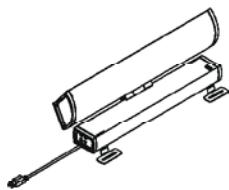
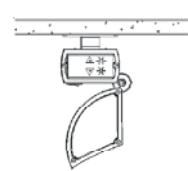
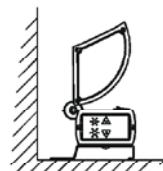

FIG.1
FIG.2
FIG.4
Note 1: This portable luminaire (Fig.1) uses LED (light emitting diode lamps), which require no maintenance. Designed for residential, commercial and industrial applications, non hazardous dry locations, ceiling (Fig.2), wall-mounted (Fig.3) and floor applications (Fig.4).
B. CEILING or WALL MOUNT INSTALLATION: (Fig.2)